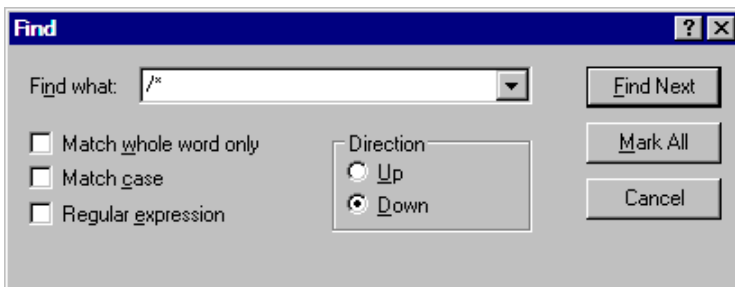

Figure 2-15. Find Dialog Box: Locating Occurrences of `/*`
2. From the **Edit** menu, choose **Find** to open the **Find** dialog box, shown in Figure 2-15.